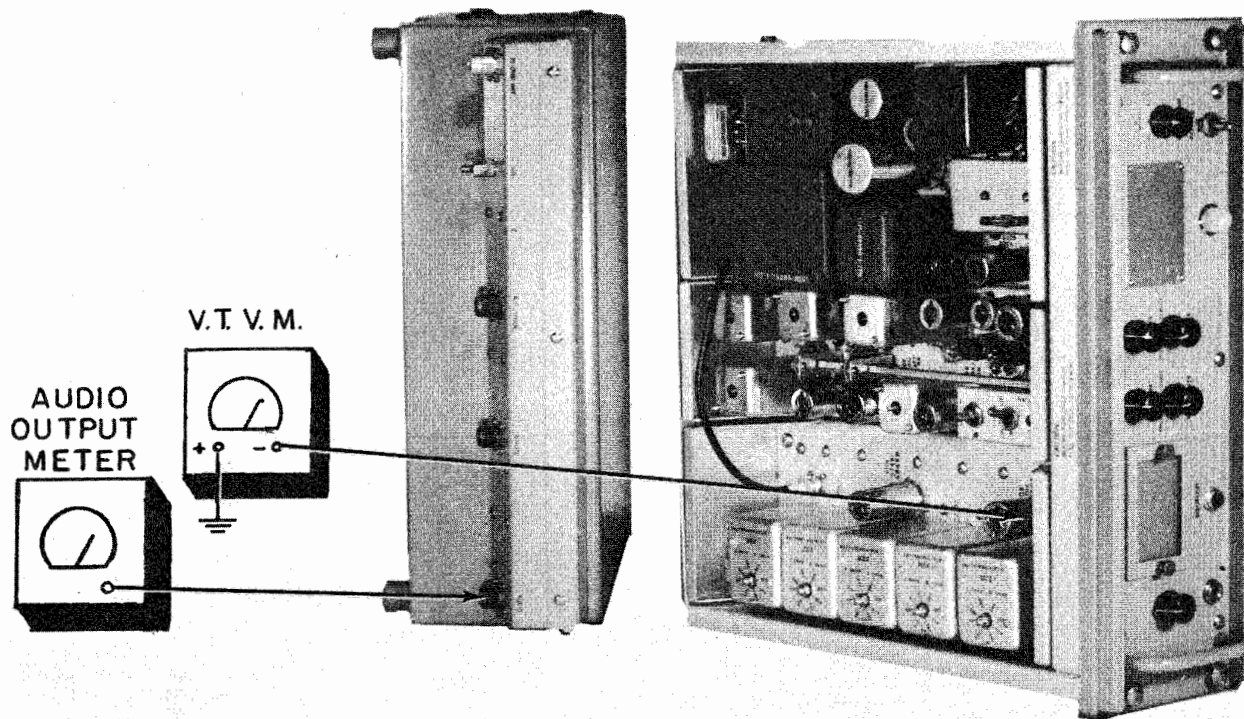

Figure 7-5. Photo—Channel Determining Oscillator Alignment Set-up
(3) Peak crystal oscillator. (See Fig. 7-5, Table 7-4.)
(1) Insert channel determining crystal Y101 in socket XY101.
(2) Connect the receiver and vacuum tube voltmeter as indicated in figure 7-5 and proceed with the adjustment as indicated in table 7-4.
(3) Make certain the RF Band switch is in the proper position for the desired channel to be received: Band I, 200 to 380 Kc; Band II, 380 Kc to 560 Kc.